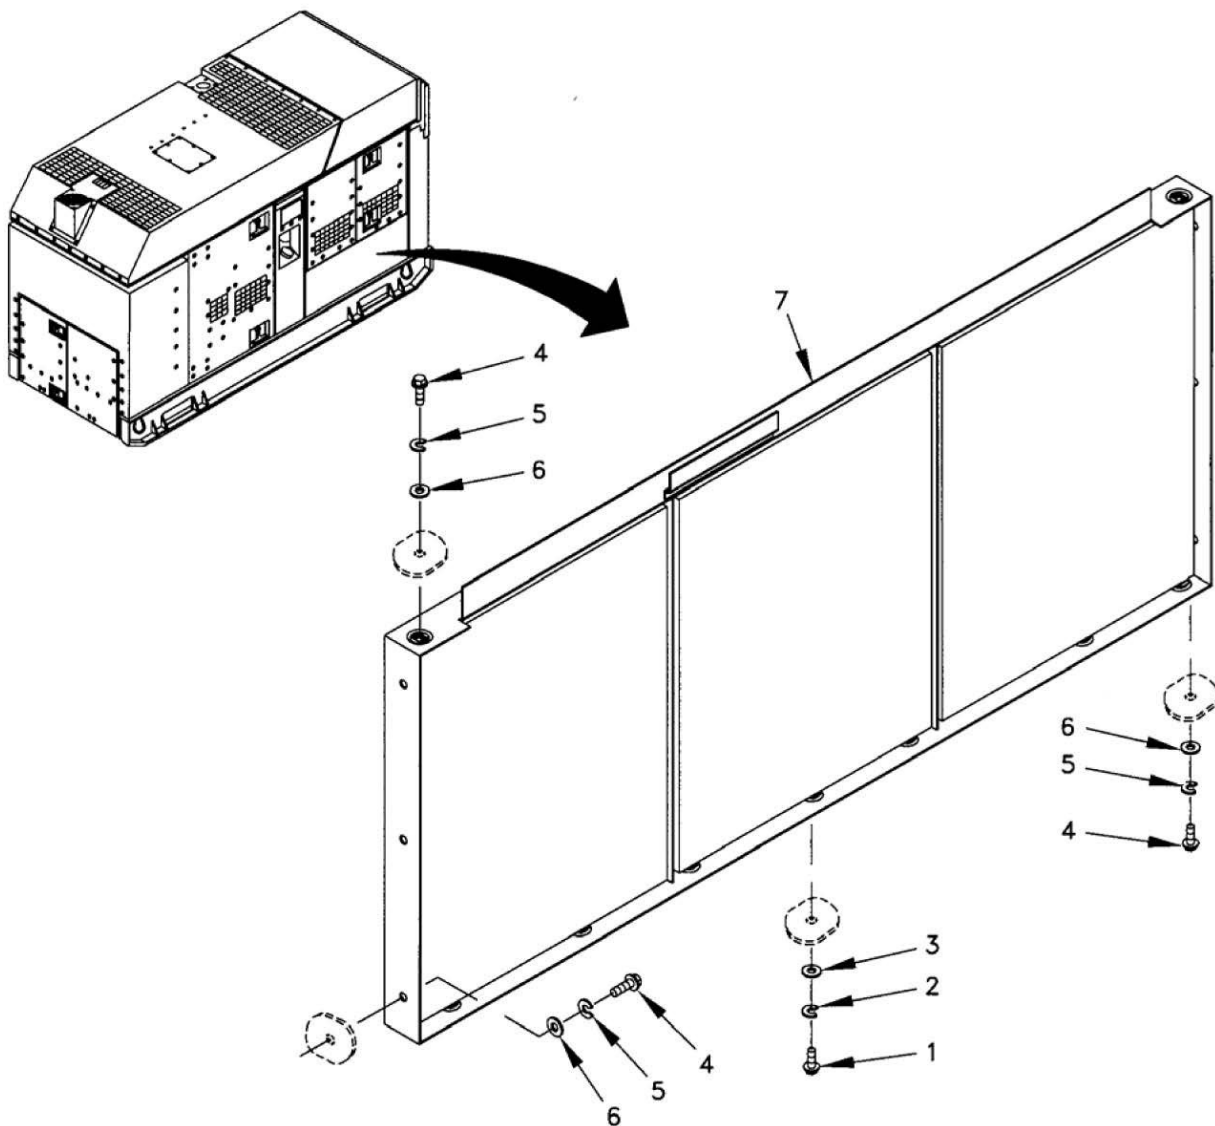

Figure 1. Left Rear Panel Assembly.
2. Remove seven screws (Figure 1, Item 1), lock washers (Figure 1, Item 2), and washers (Figure 1, Item 3).
3. Remove four screws (Figure 1, Item 4), lock washers (Figure 1, Item 5), washers (Figure 1, Item 6) and left rear panel assembly (Figure 1, Item 7).
1. Install left rear panel assembly (Figure 1, Item 7), and secure with four washers (Figure 1, Item 6), lock washers (Figure 1, Item 5), and screws (Figure 1, Item 4).
2. Install seven washers (Figure 1, Item 3), lock washers (Figure 1, Item 2), and screws (Figure 1, Item 1).